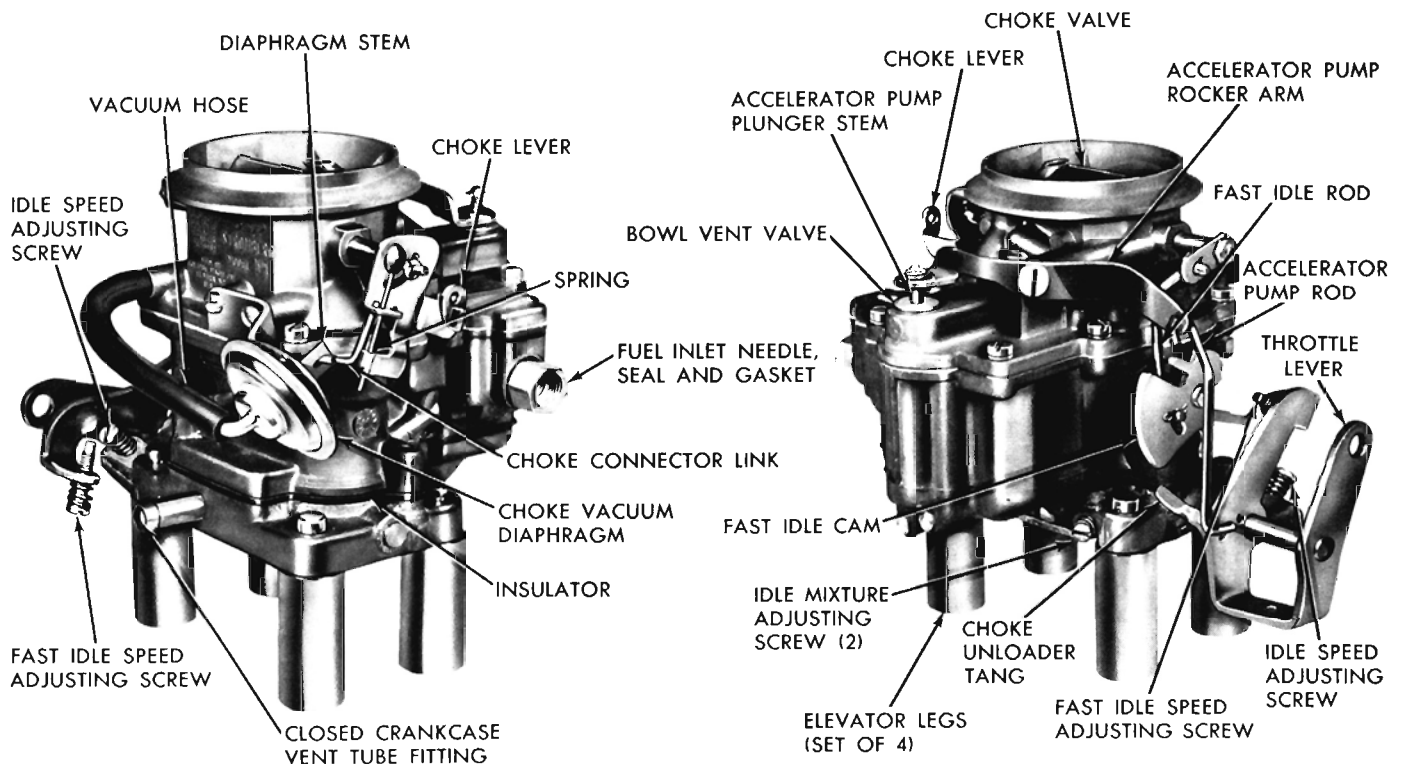

Fig. 1—Carburetor Assembly (WW3-248, 249, 250 and 251)
To disassemble the carburetor for cleaning or overhauling, refer to (Fig. 1), then proceed as follows:
(1) Place the carburetor assembly on repair block Tool C-3225. (This Tool is used to protect the throttle valves from damage and to provide a suitable base for working.)
(2) Remove the cotterpin that holds the pump operating rod in the center hole of the throttle lever. Disengage rod from lever.
(3) Remove the clip that retains the fast idle rod, then disconnect the rod.
(4) Remove the vacuum hose between the carburetor air horn and the vacuum diaphragm.
(5) Remove the "E" clip from the choke operating link at the choke lever and disengage the link from the vacuum diaphragm stem (plunger). Refer to (Fig. 1).